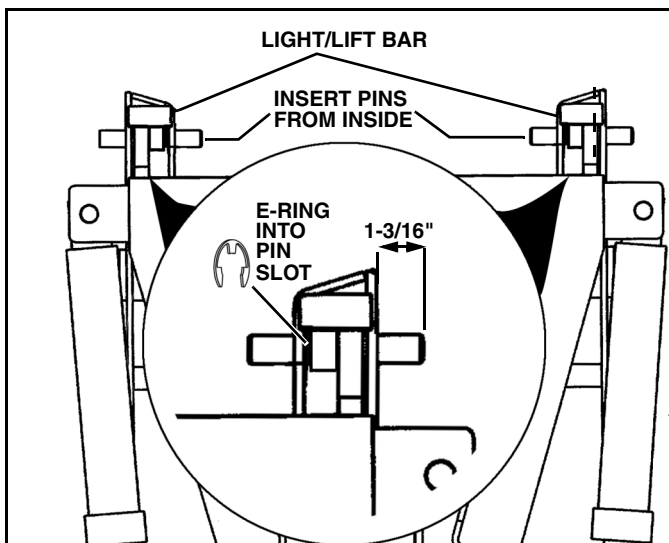

Figure 1-10
18. Place light/lift bar over A-frame lugs. (See Figure 1-10).
19. Insert the shoulder pins through the light/lift bar and A-frame lug. Pin must be inserted from the inside of the light/lift bar with the groove in the pin to the inside. (See Figure 1-10).
20. Secure both pins by inserting the E-rings. (See Figure 1-10).